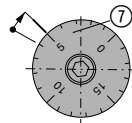

figure 9
The chrome-plated dial ⑦ gives an exact reading of the diameter setting. The distance of the adjustment is limited. Please follow the sequence of operations for setting the diameter as set out below (figure 9).
One revolution of the dial is equivalent to the adjusting pin (and hence also the cutter on the tool) undergoing a diameter adjustment of 0.2 mm (.01"). One division on the dial corresponds to a diameter adjustment of 0.01 mm (.0005"). Rotation clockwise produces feed-in the diameter (figure 9).